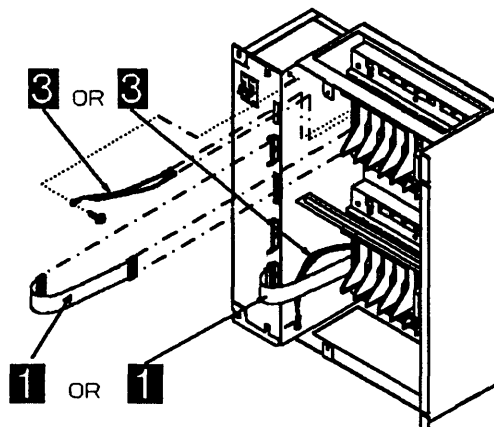
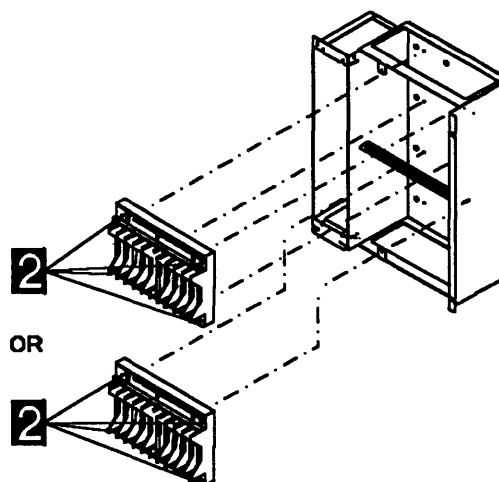

Figure 5-146. LIC Board Type 2 Enclosure Assembly
Figure 5-147. LIC Board Type 2 Assemblies
Refer to Figure 5-146 and Figure 5-147 and do the following:
2. Refer to Figure 5-147 on page 5-146. Mount the new board in place and secure it with the four screws **2**.
3. Refer to Figure 5-146 on page 5-146. Reconnect the flat power cable **1**.